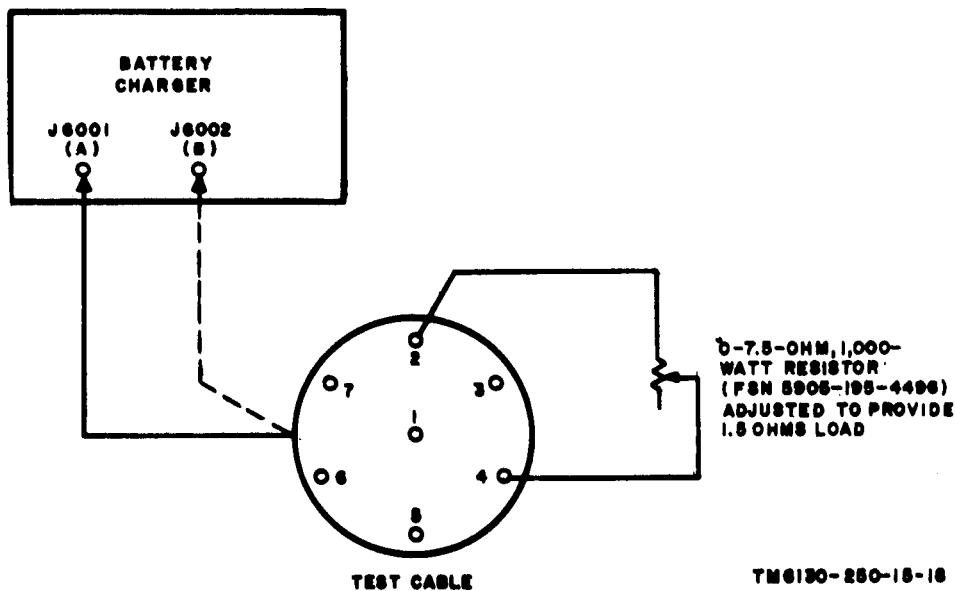

Figure 6-1. Test setup for adjusting battery charging current.
(fig. 6-1)
- (2) Set up the equipment as shown in figure 6-1. For this adjustment procedure, set the 0- to 7.5-ohm, 1,000-watt resistor, variable for 1.5 ohm.
- (3) Connect the AC POWER INPUT connector to a 115- to 230-volt, 60- or 400-cps input source.
- (4) Set the SELECTOR SWITCH to 115 V or 230 V, depending on the input source used.